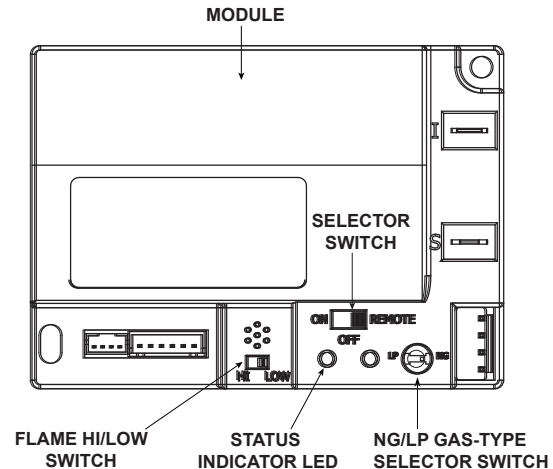

Figure 22 Control Module
- Move switch to OFF (See Figure 22, page 30).
1. The control module has an ON/OFF/REMOTE selector switch that must be set. See Figure 22.
2. If using a wired wall switch with the module in REMOTE mode, the flame output can be adjusted with the HI/LO selector switch on the module. See Figure 22. Note that the flame HI/LO selector switch will become inactive once a remote control (RC300) is programmed to the control module. Note that the control module will always ignite the fireplace on HI and remain so for the initial 10 seconds of operation. If the HI/LO is switched to the LO position, the flame output will automatically drop to the lowest setting after the flame has been established for 10 sec. After this 10 second period, the flame can be adjusted from HI to LO with the switch.
- Locate the module selector switch. (See Figure 22).
- Wait five (5) minutes to allow possible accumulated gas to clear.